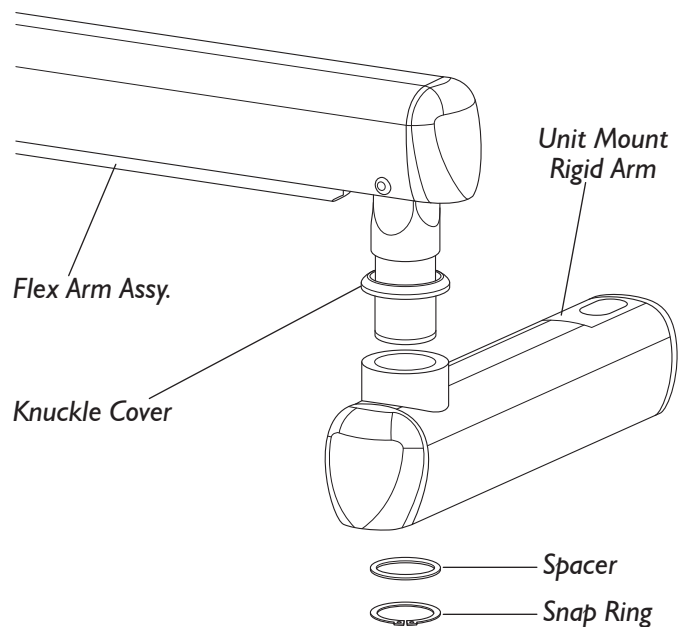

Figure 3. Attach Flex Arm to Unit Mount Rigid Arm
- Attach Flex Arm:** Attach the Flex Arm to the Unit Mount Rigid Arm. Replace covers on ends of Unit Mount Rigid Arm. Raise Knuckle cover and install two dowel pins into bracket assembly. See Figure 3.